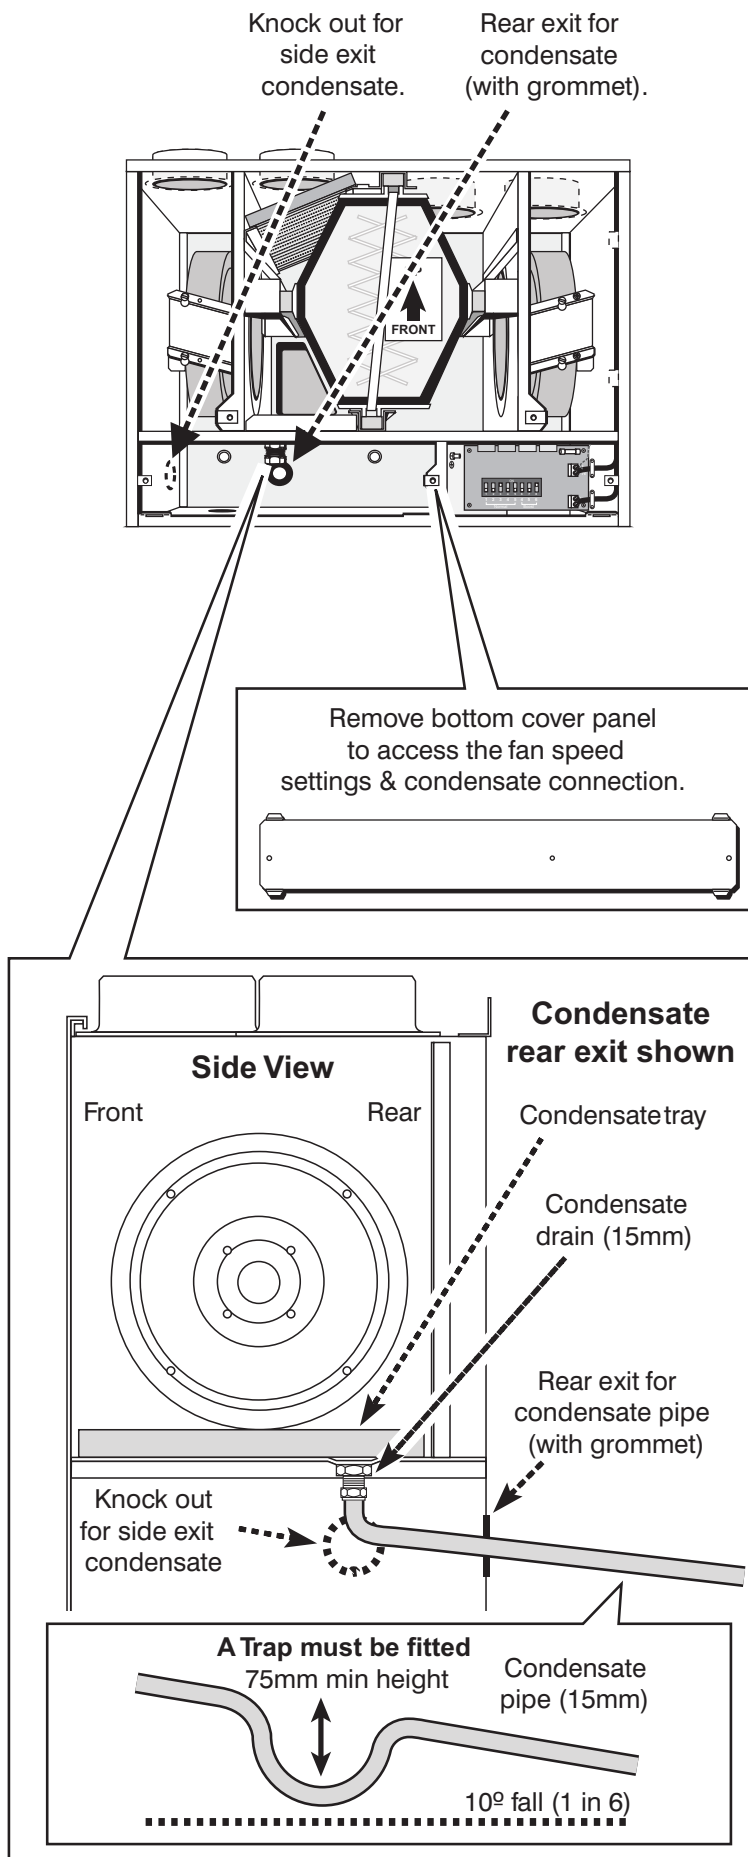

Fig. 11
1. The condensate pipe should have a continuous fall of 10° (1 in 6) with as much of the condensate pipe as possible run inside the property to avoid freezing. The pipe should also incorporate a trap with a minimum height of 75mm or similar device to prevent a return of foul air from the waste pipe. See Fig. 11.